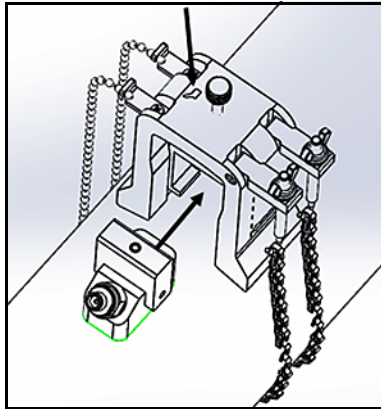

Figure 32: Insert Transducer into Yoke
8. Loosen the yoke screw. Then, apply couplant to the transducer face and insert the transducer into the yoke, as shown in *Figure 32* below.